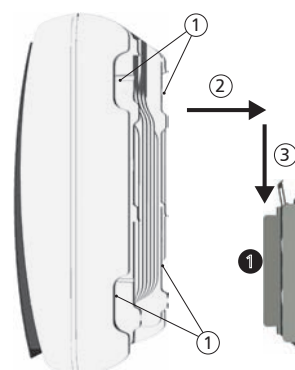

Figure 23
- Pick up the inverter by its handles ① or edges, place it in the middle of the mounting plate ① and press in gently ② (Figure 23).
- Lower the inverter ③ until the retaining plate on the mounting plate clicks audibly into place. The hooks on the back of the inverter must pass over the lugs on the mounting plate.